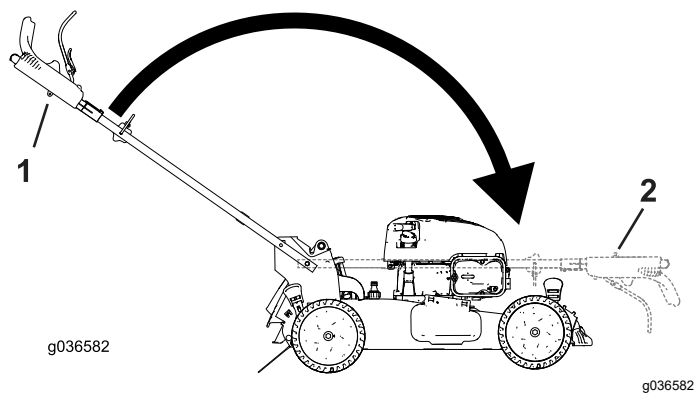

Figure 27
2. Fold the handle by rotating it forward (Figure 27).